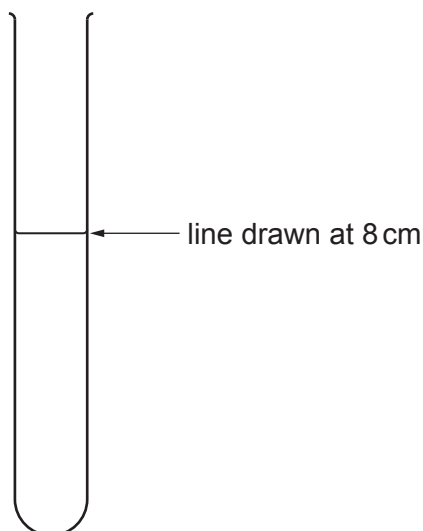

Fig. 1.2
6. Use the marker pen to draw one line on the **small** test-tube 8 cm from the bottom, as shown in Fig. 1.2.